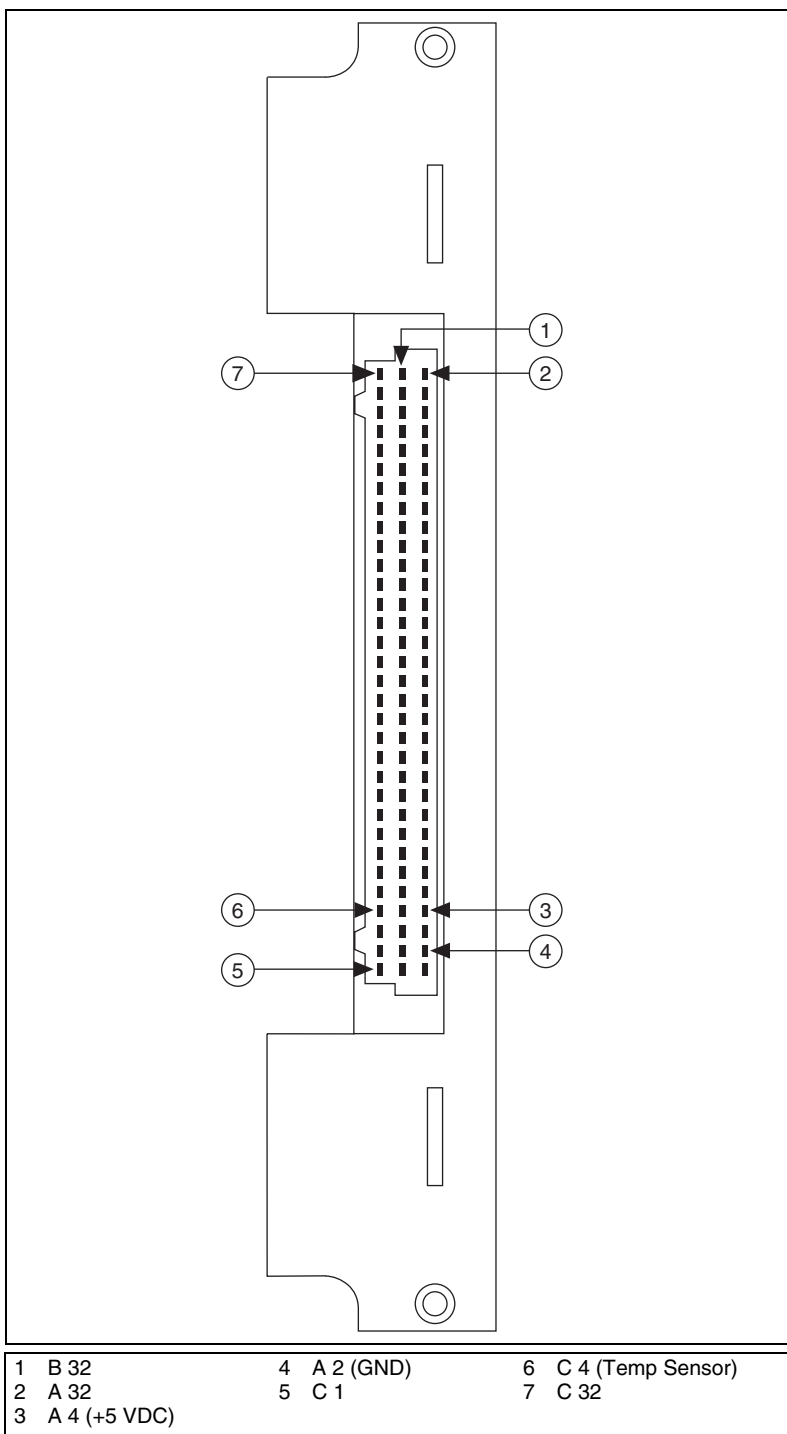

Figure 4. SCXI-1313A Connector Pin Assignments
- a. Hold the terminal block vertically and view it from the rear as shown in Figure 4. The terminals on the 96-pin DIN connector are designated as follows:
Refer to Figure 4 for the pin assignments on the SCXI-1313A. Individual pins are identified by their column and row. For example, A3 denotes the terminal located in Column A and Row 3. This conforms to the labeling of the pins on the front connector of a mating SCXI module. It does not necessarily correspond to the labeling of the pins on the rear of the terminal block connector itself, which you can only view by opening the terminal block enclosure.